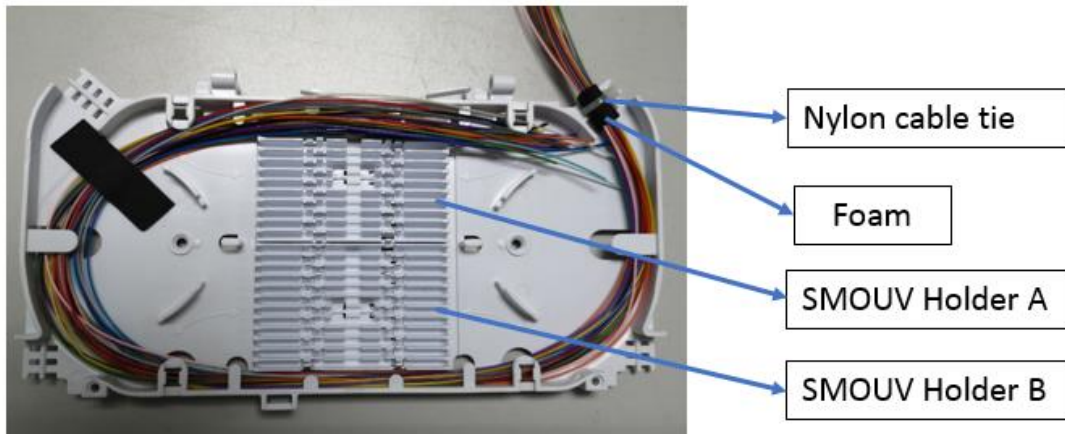

Figure 5
- Using the provided nylon tie wrap, loop it through the slot in the tray and around foam. Tighten cable tie for fixture. Make sure the head of the cable tie is on the bottom side of the foam, as Figure 5.
- Route fibers in the tray, use foam to hold it temporary if needed as Figure 5. While splicing, first batch